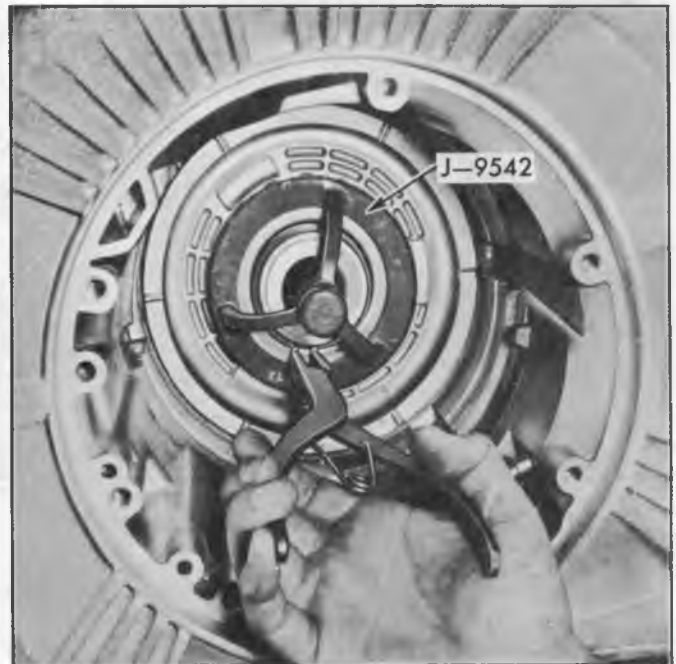

Fig. 8PG-Removing Rear Piston Spring Retainer Snap Ring
16. Install Tool J-9542 through the rear bore of the case with the flat plate on the rear face of the case and turn down the wing nut to compress the rear piston spring retainer and springs, then remove the snap ring (fig. 8PG). Tool J-8039 may be used to remove the snap ring if desired.